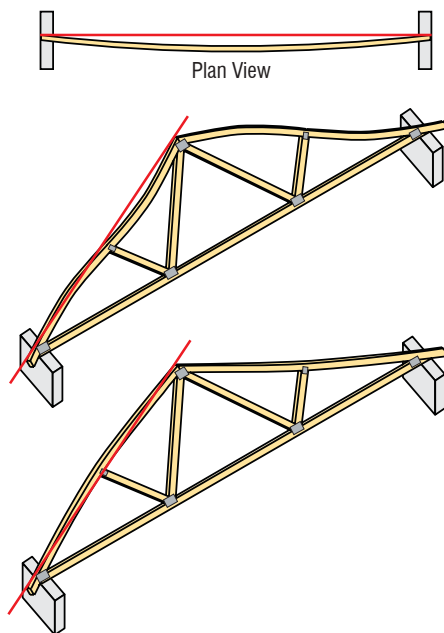

FIGURE B1-5
(See Figure B1-5, page 4.)
- ✓ Hoisting by hand is allowed, provided excessive lateral bending is prevented (see Figure B1-5, page 4).
- ⚠ **AVOID LATERAL BENDING** (see Figure B1-5, page 4).